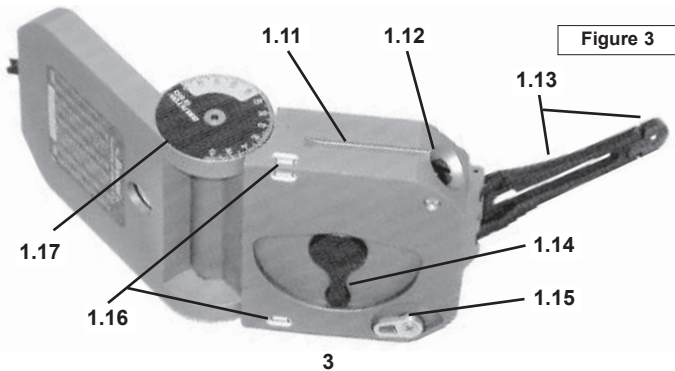

Figure 3
1.11 Ball & Socket Tripod Mount (Fig 3)
1.12 Magnetic Declination Adjustment Screw (Fig 3)
1.13 Large Sight w/ Peep Sight (Fig 3)
1.14 Vernier Adjustment (Fig 3)
1.15 Needle Locking Adjustment -- 2-Positions (Fig 3)
1.16 Side/Bottom Long Levels (Fig 3)
1.17 Hinge Inclinometer (Fig 3)